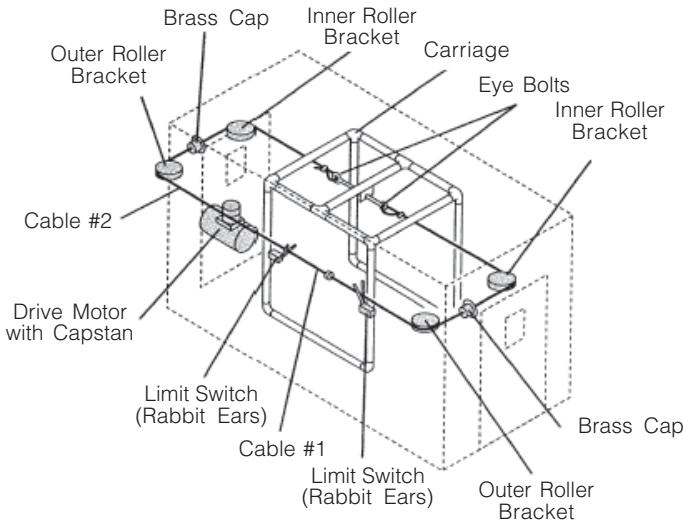
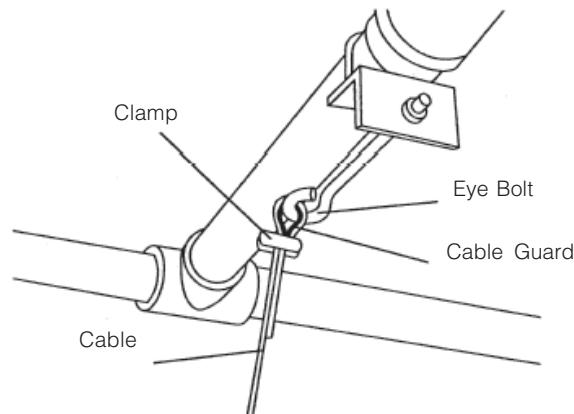

Figure 3-37. Attach Drive Cables to Carriage
Figure 3-38. Connect Cable to Eye Bolt
16. Remove first layer of tape from drive motor capstan. Unwind cable and feed cable through limit switches (rabbit ears) and outer roller bracket (see Cable #1 in Figure 3-37).
17. Insert cable through opening in cabinet and feed cable through inner roller bracket (see Cable #1 in Figure 3-37).
18. Attach cable to eye bolt in center of carriage (see Figures 3-37 and 3-38).
20. Remove remaining tape from drive motor capstan. Unwind and feed cable through other set of outer and inner roller brackets (see Cable #2 in Figure 3-37). Attach cable to eye bolt in center of carriage (see Figure 3-38).